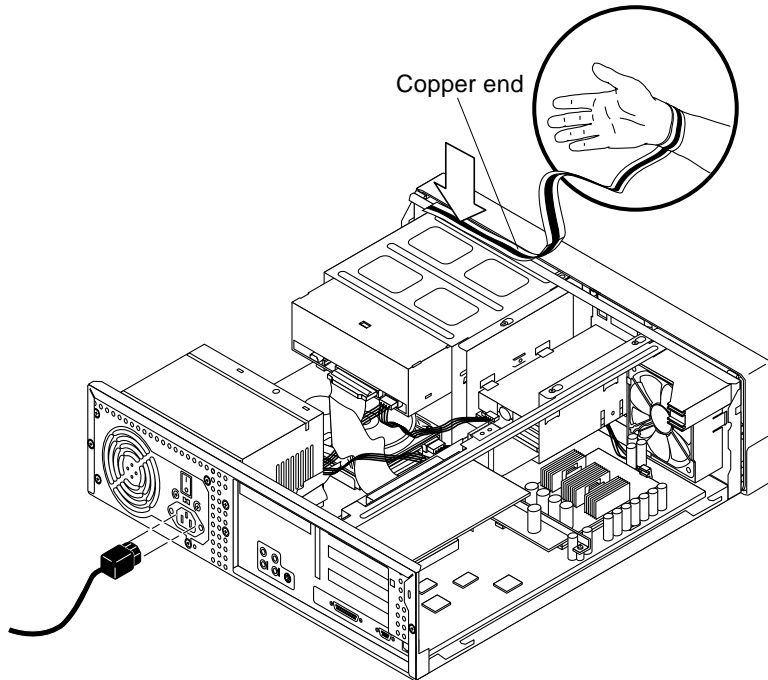

FIGURE 1-6 Attaching the Wrist Strap to the Ultra 5 Chassis
3. Attach the copper end of the wrist strap to the chassis (FIGURE 1-6).